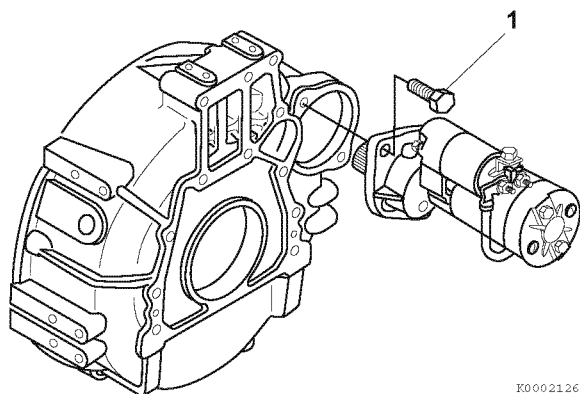

**Figure 11-35**
- Connect an ammeter (**Figure 11-35, (1)**) in series between the battery positive (+) terminal (**Figure 11-35, (2)**) and the main positive (+) terminal (**Figure 11-35, (3)**) on the starter motor.
- Connect a wire lead between the mounting base of the starter motor (**Figure 11-35, (4)**) and the battery negative terminal (**Figure 11-35, (5)**).
- Connect a voltmeter (**Figure 11-35, (7)**) to the battery negative (-) terminal (**Figure 11-35, (5)**) and the main positive (+) battery terminal (**Figure 11-35, (3)**) on the starter motor.
- Install a switch (**Figure 11-35, (6)**) in a circuit between the battery positive (+) terminal (**Figure 11-35, (2)**) and the starter magnetic switch (solenoid) terminal (**Figure 11-35, (8)**) on the starter motor.